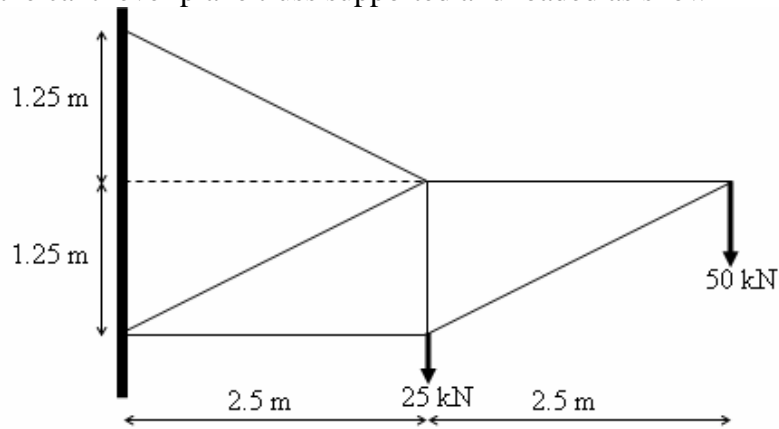

Figure 8
8. Analyse the cantilever plane truss supported and loaded as shown in figure 8. [16]